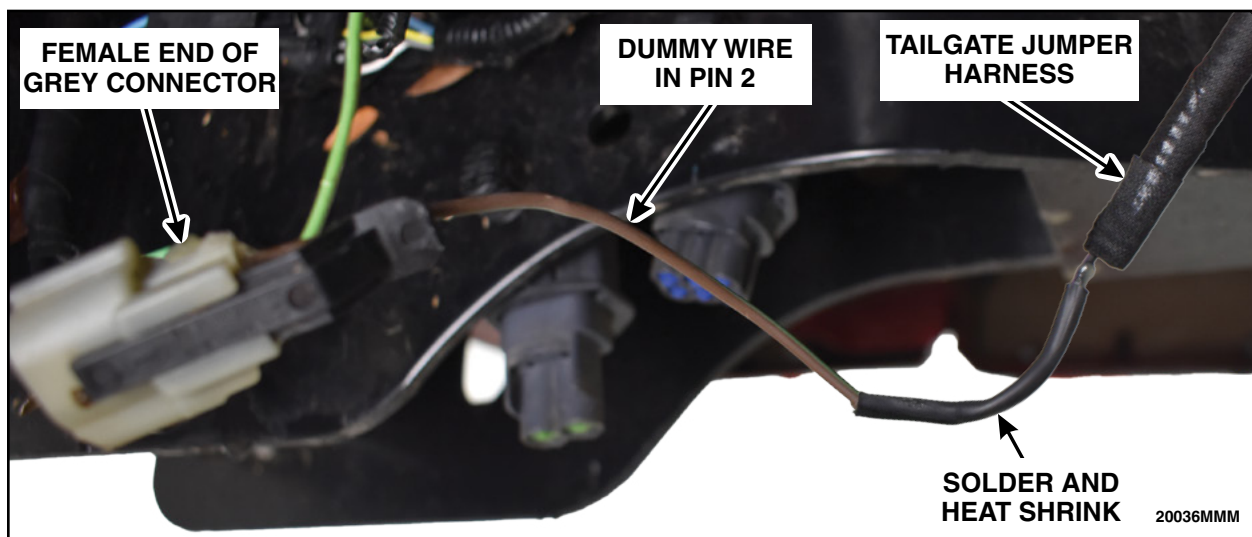

FIGURE 68
92. Solder and heat shrink the Tailgate Jumper Harness to the dummy wire in Pin 2 of the grey 2 pin female end connector. See Figure 68.